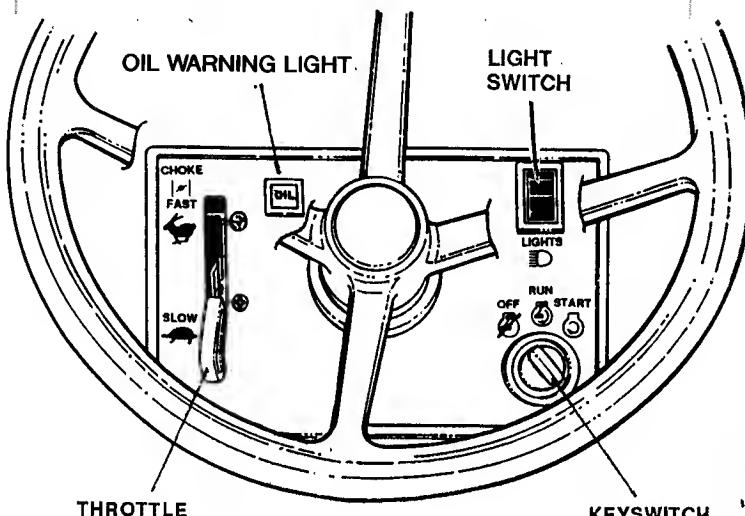

FIGURE 2
ENGINE: STOP ENGINE by turning the KEYSWITCH to "OFF". See Figure 2.
- CHOKE ENGINE for cold starting by moving THROTTLE CONTROL to "CHOKE" position. (Little or no choking will be needed when restarting a warm engine). Refer to Figure 2.